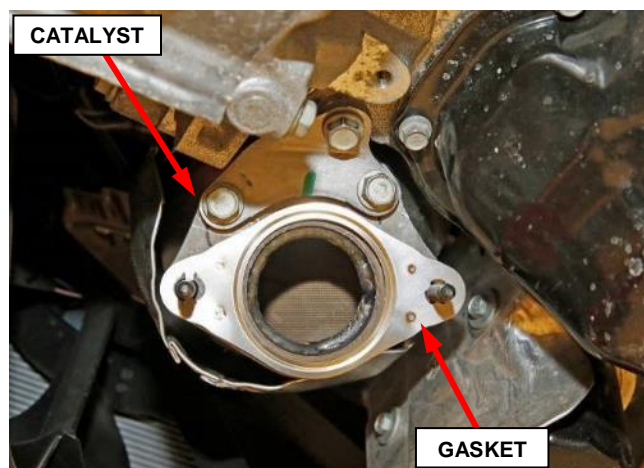

Figure 55 – Catalyst Flange Gasket
- h. Remove and **DISCARD** the crossunder pipe to catalyst flange gasket (Figure 55).